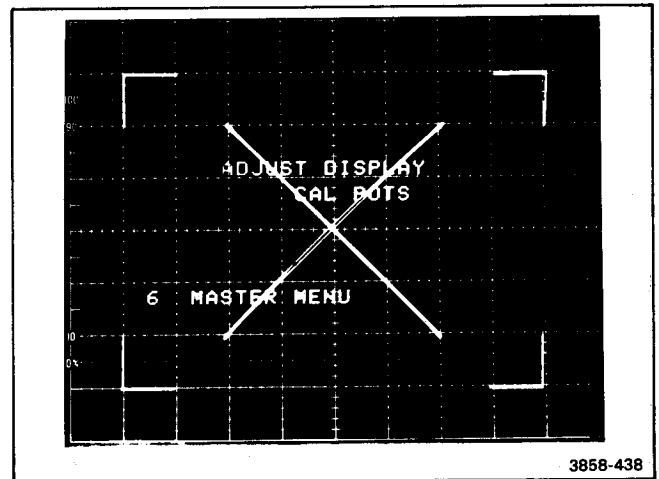

Figure 4-10. Display Adjust Pattern.
- While observing the DISPLAY CAL PATTERN displayed on the oscilloscope mainframe crt, use screwdriver to set VERT GAIN, VERT CTR, HORIZ GAIN and HORIZ CTR controls to place corner markers of DISPLAY CAL PATTERN on center 6 × 8 divisions of graticule, as shown in Figure 4-10.
- Set VECT LIN adjustment for minimum trace separation of the diagonal lines on DISPLAY CAL PATTERN as shown in Figure 4-10.